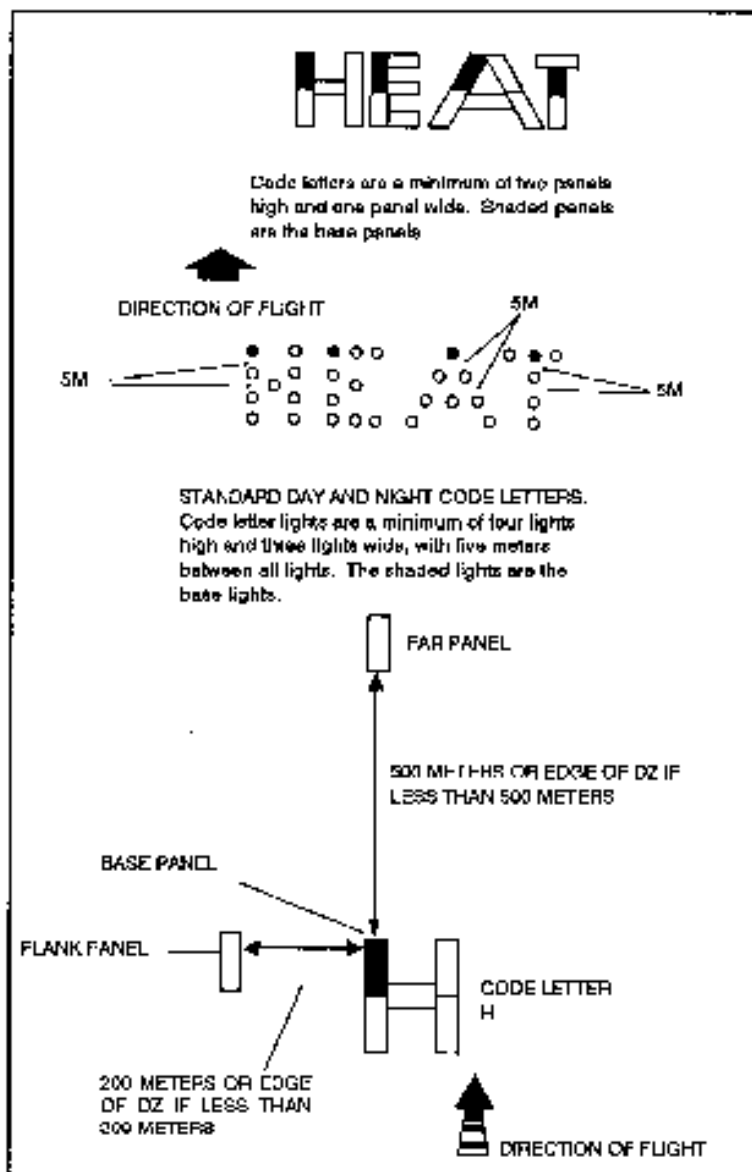

Figure 6-6. Horizontal clearance.
(1) For example, if you must position a drop zone marker near a terrain mask such as the edge of a forest that is on the drop zone approach, and the trees are 10 meters (33 feet) high, the markings would require 150 meters (492 feet) of horizontal clearance from the trees (Figure 6-6).
(2) If any of the GMRS markings fall within a 15:1 mask clearance ratio on the approach end of the drop zone, an Army code letter (H, E, A, T), or a far (marker) panel may be placed on the trailing edge of a drop zone if coordinated for during the DZST/aircrew mission briefing. If a code letter is used, it can be used to distinguish the drop zone from other drop zones in the area.
d. At night, panels will be replaced with lights (1 light per panel). Directional lights should be used for the approach, corner, alignment, and flanker. If necessary, the far code letter would use directional light holes and the base light would be on line with the corner light. (Refer to Figure 6-6 for construction requirements for Army code letters.)
a. A standard Army code letter using VS-17 panels for daytime operations will be emplaced at the release point. The base panel of this code letter will be positioned exactly on the RP. The code letter will be either H, E, A, or T and will be at least two panels high and one panel wide (Figure 6-6).